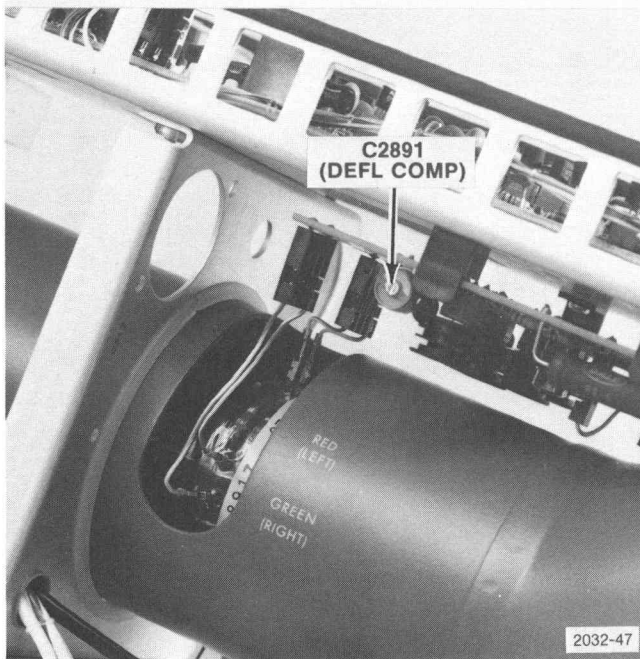

Fig. 4-17. Deflection compensation test points and control.
f. Adjust—L1841 and L1847 [B-Y (U) Filter] for best transient response.
a. Remove the wire from P1950-1 and touch it to the wire in P1901-2. See Fig. 4-17. The Vectorscope display should be a line at a 45° angle.